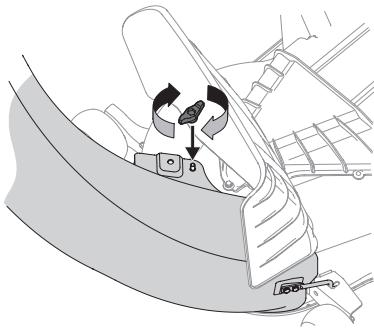

Figure 21
6. Secure the boot elbow to the cutting deck using a wing knob (720-04122) included in hardware pack (689-02364). Refer to Figure 21.